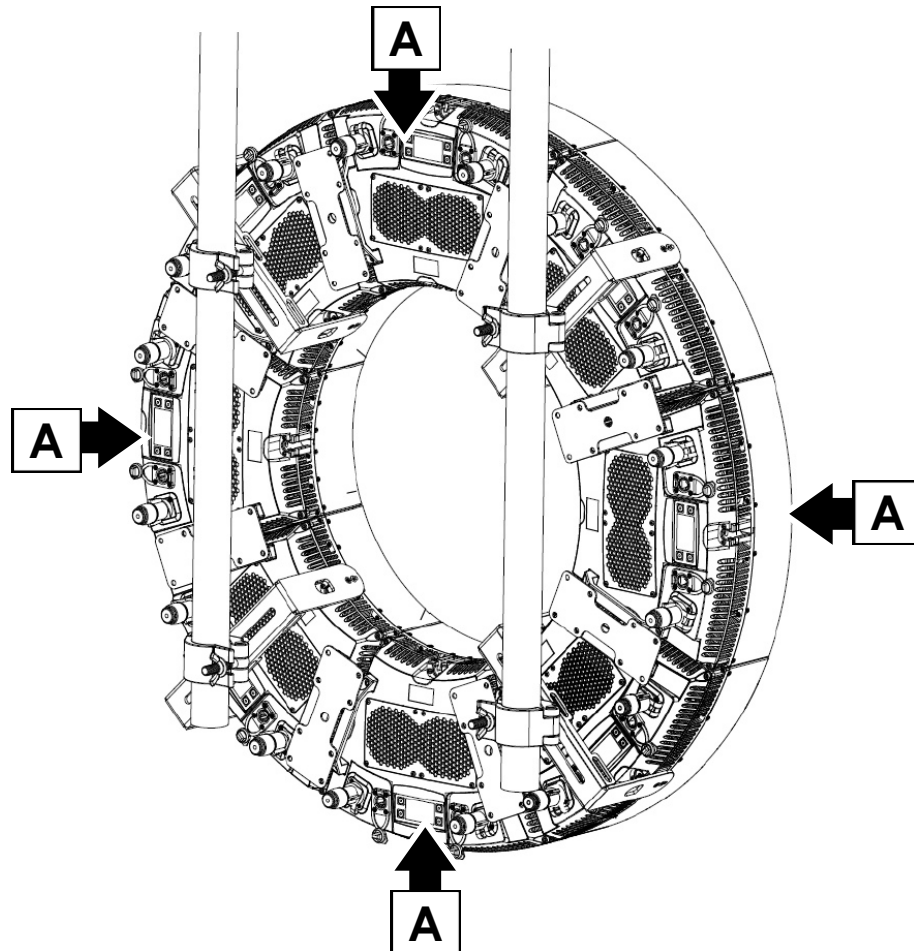

Figure 17. Supporting KNV Arc fixtures in a circular array
Each KNV fixture must be fastened to the supporting structure using one KNV Installation Bracket and half-coupler clamp per fixture. There is one exception to this: if a fixture is fastened with KNV Module Connectors and KNV Connector Plates to two fixtures (one fixture on either side) that are supported by KNV Installation Brackets and half-coupler clamps, it does not need to be supported by its own KNV Installation Bracket. In other words, a fixture that is 'sandwiched' between two correctly supported fixtures (like the fixtures marked **A** in Figure 17) does not need an Installation Bracket. Likewise, a fixture that is 'sandwiched' in this way does not need to be secured with its own safety cable. All other fixtures in a curved or circular array must be
2. See Figure 17. Fasten the first fixture to the supporting structure by means of its Installation Bracket and rigging clamp.